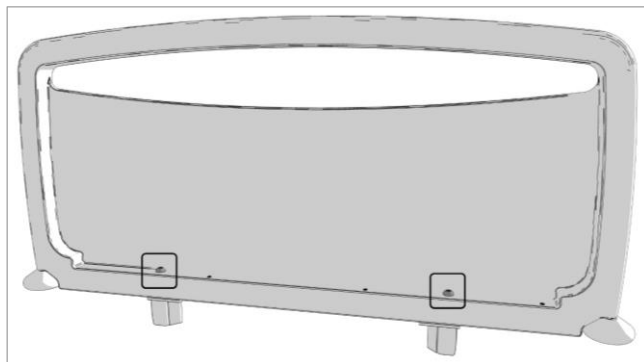

Figure 8.11
12. Repeat the previous steps to fit the headboard. The correct orientation of the headboard is with the fasteners highlighted in Figure 8.11 facing away from the bed.